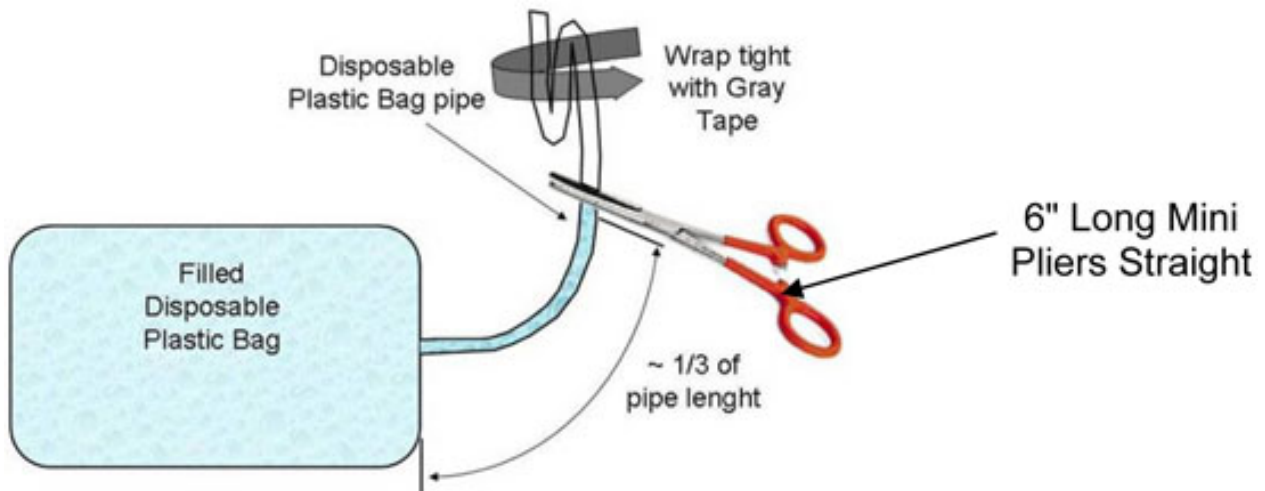

Figure 12. Disposable Plastic Bag pipe pinching
5.12 Pinch the Disposable Plastic Bag pipe at a distance of about 1/3 from the bag (6" Long Mini Pliers Straight). Refer to Figure 12.
5.14 Fold the final part of the Disposable Plastic Bag pipe twice, wrap tight (Gray Tape), then remove the pliers. Refer to Figure 12.